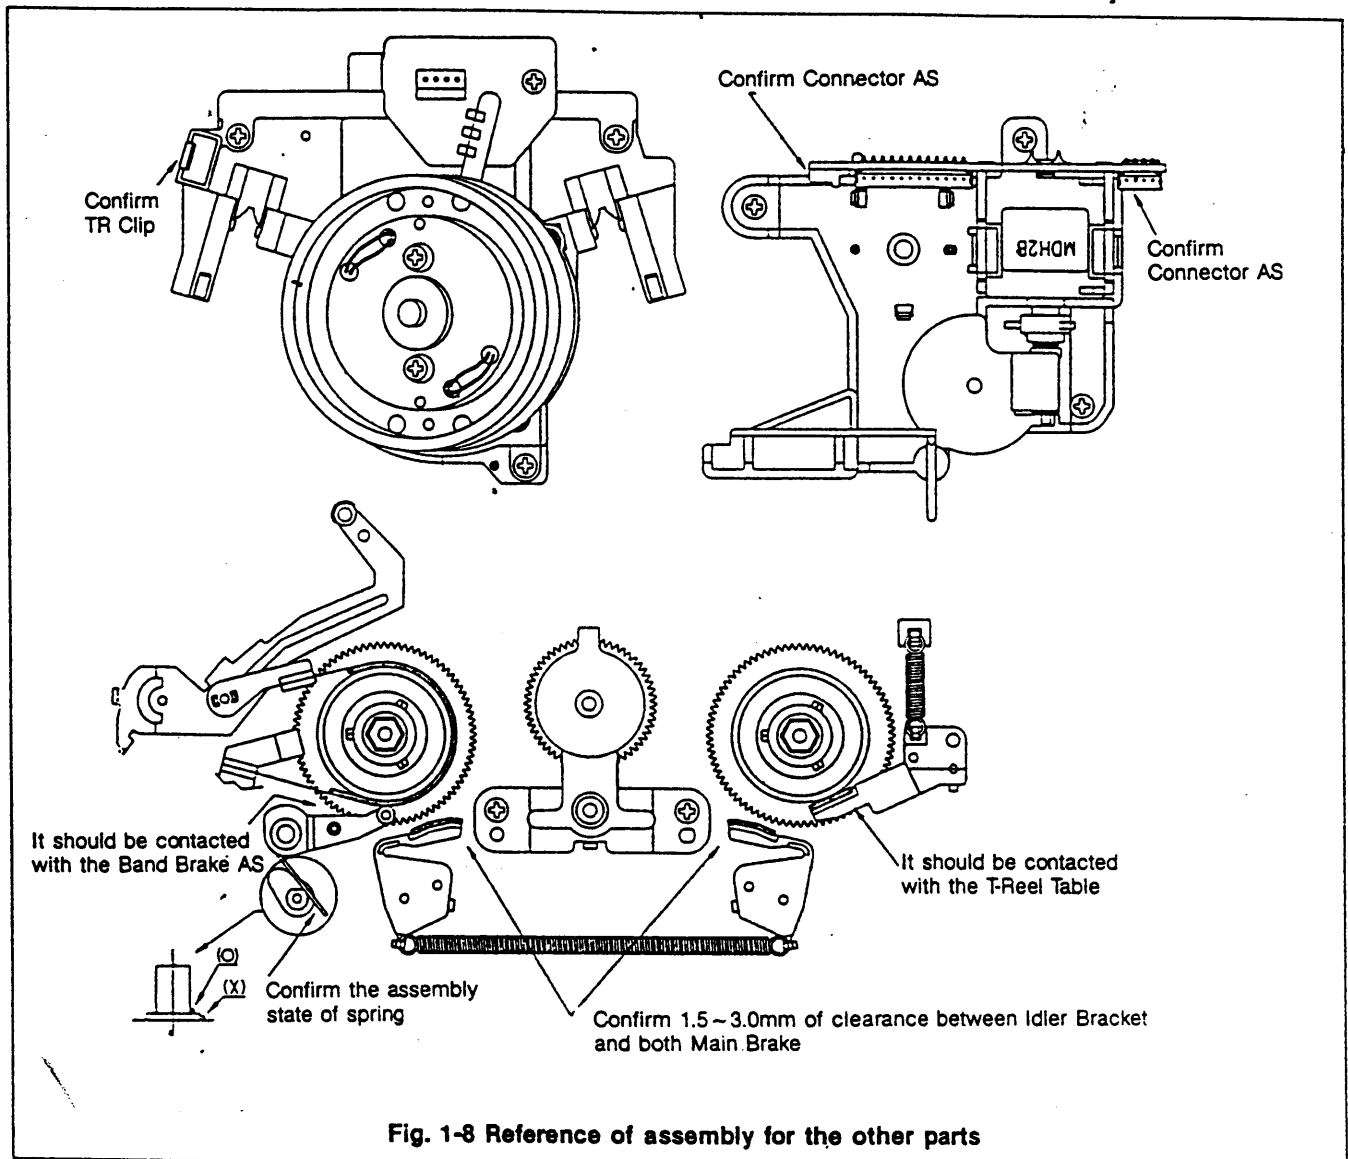

Fig. 1-8 Reference of assembly for the other parts
- 6) Make sure of the other's assembly state (refer to Fig. 1-8).